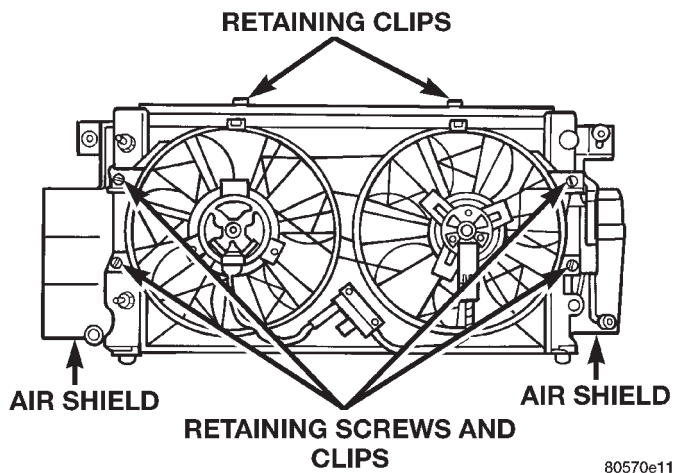

Fig. 26 Fan Module
(1) Disconnect electric lead to the RFI module.
(2) Remove fan module to radiator fasteners and retaining clips (Fig. 26).